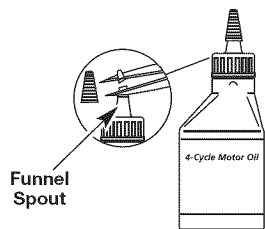

Fig. 6
The unit is supplied with one 2.2 fl.oz. (60 ml.) bottle of SAE 30 SF, SG, SH oil (Fig. 6).
1. Unscrew the top of the bottle of oil and remove the paper seal covering the opening. Replace the top. Next, cut the tip off the funnel spout (Fig. 6).